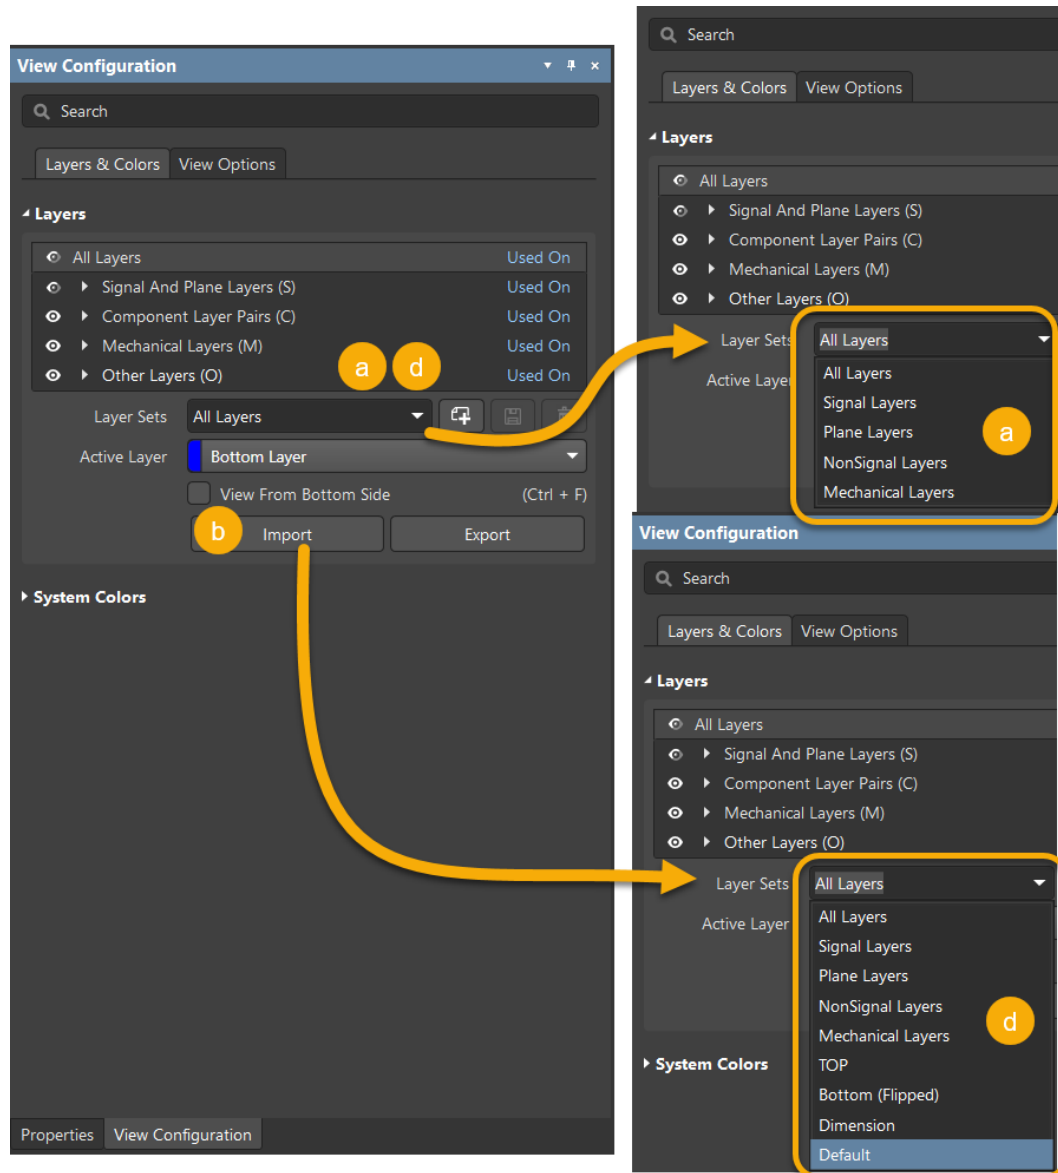

Figure 4. Load predefined Layer Sets
25. Still in the *View Configuration* panel, Figure 4:
- Select the drop down list again to see the current Layer Sets or use the button **Layer Set (LS)**  at the lower left side of the PCB Workspace.